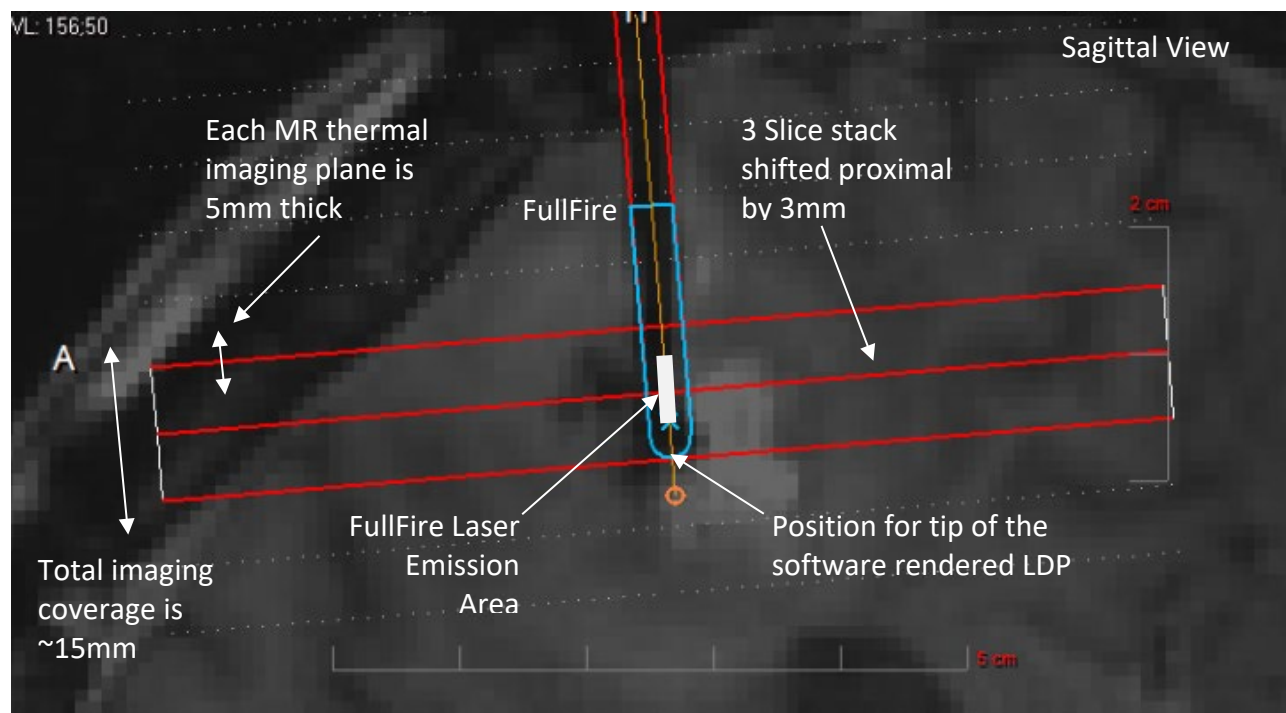

Figure 8.8.12: FullFire® Optic Probe Thermal Monitoring Setup
- Adjust the software rendered LDP depth by clicking on and dragging light blue tip image to the desired linear position for thermal delivery making sure to position the tip of the software rendered LDP even with the red, distal-most monitoring plane line (see Figure 8.8.12)